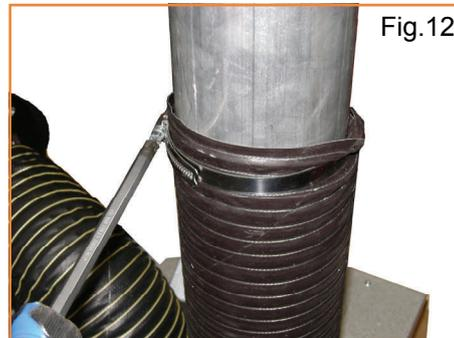

Fig.12
c) Fit the second hose clip to the opposite end of the the flexible coupler. Slide the flexible coupler over the end of the pre-installed fresh air duct and tighten the hose clip as shown in fig.12.